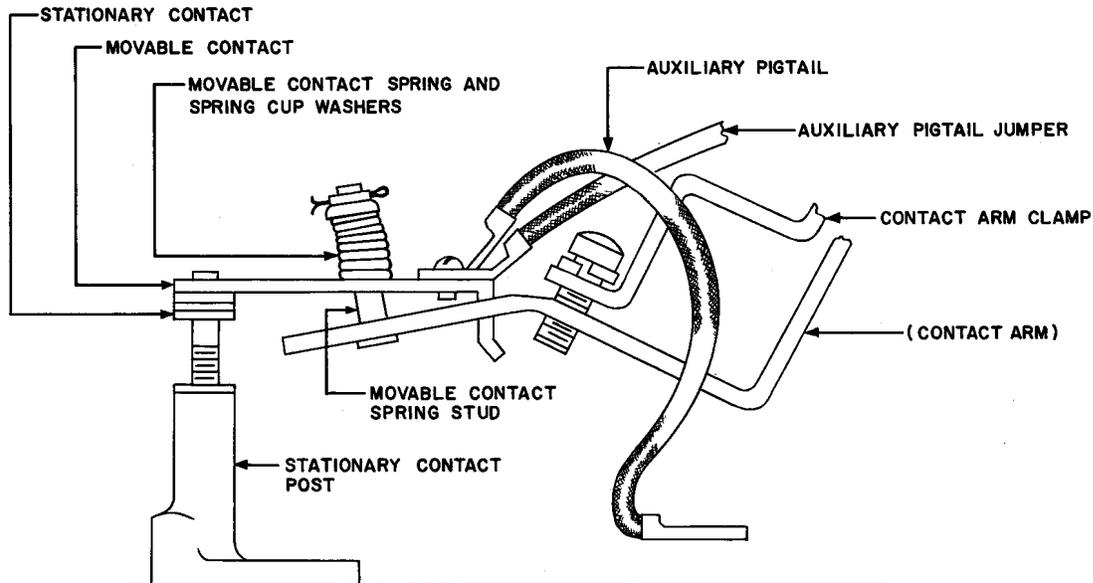

Fig. 4 - Auxiliary Contact Structure (Butt Type) of 30-, 75-, 100-, and 150-Ampere Contactors
3.06 Movable Butt-Type Contacts — See Fig. 4 to 7
3.07 Stationary Butt-Type Contacts — See Fig. 4 to 7